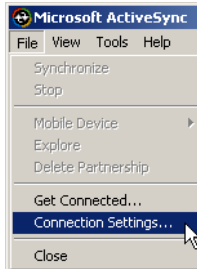

Figure 1-7. Open Connection Settings
2. Click **File** ► **Connection Settings** (Figure 1-7).